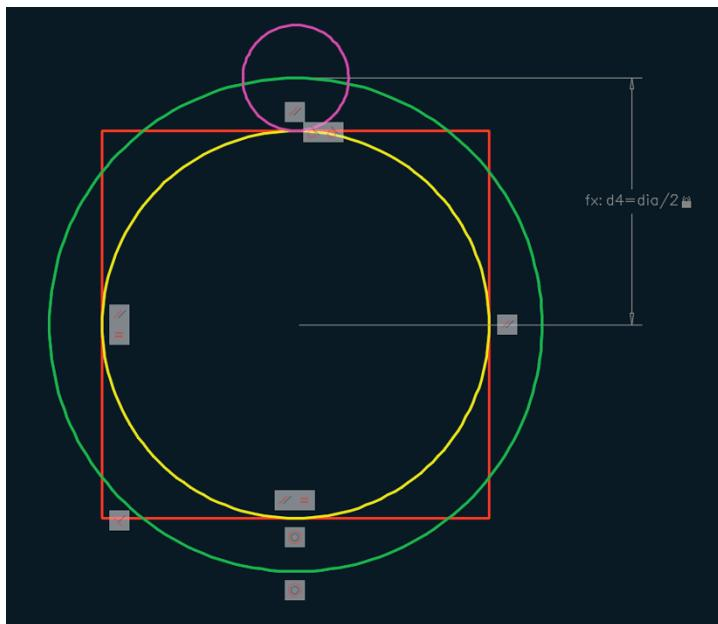

FIGURE 12.12 Adding the last dimensional constraint
10. Click the Linear constraint tool in the Dimensional panel. Click the magenta circle, the yellow circle, and then a point off to the right to place the dimension line. Type $d4=dia/2$, and press Enter (see Figure 12.12). The center of the magenta circle is anchored effectively at the top quadrant (or top cardinal point) of the green circle.